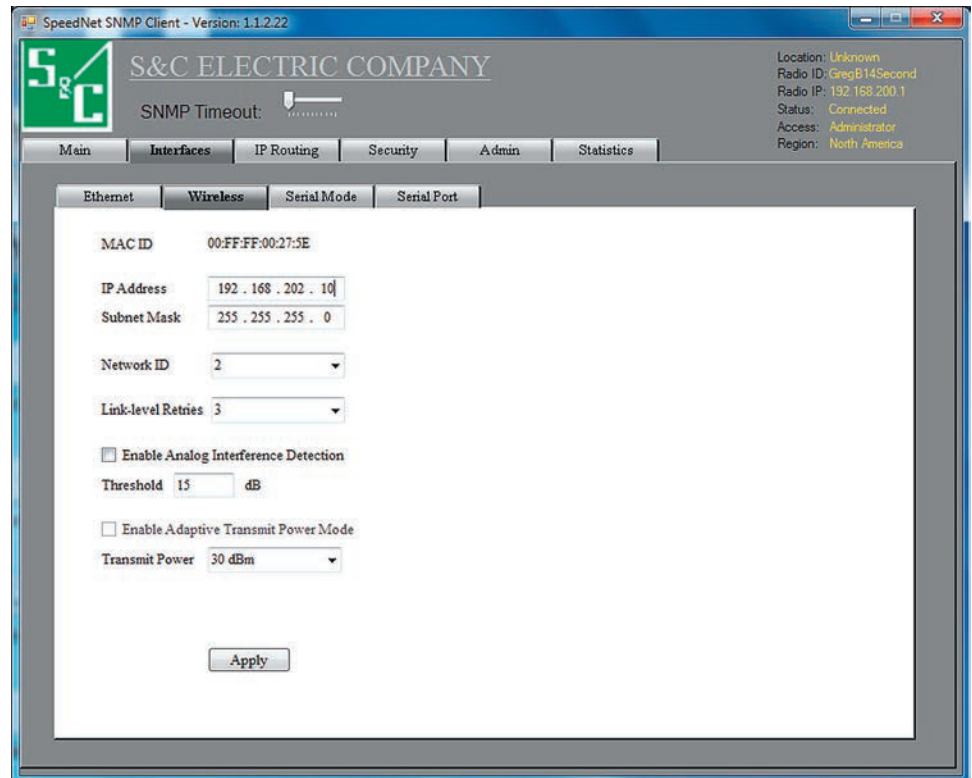

Figure 5. Wireless configuration dialog box.
STEP 14. The *Interfaces* screen will open. Click on the **Wireless** tab. See Figure 5.